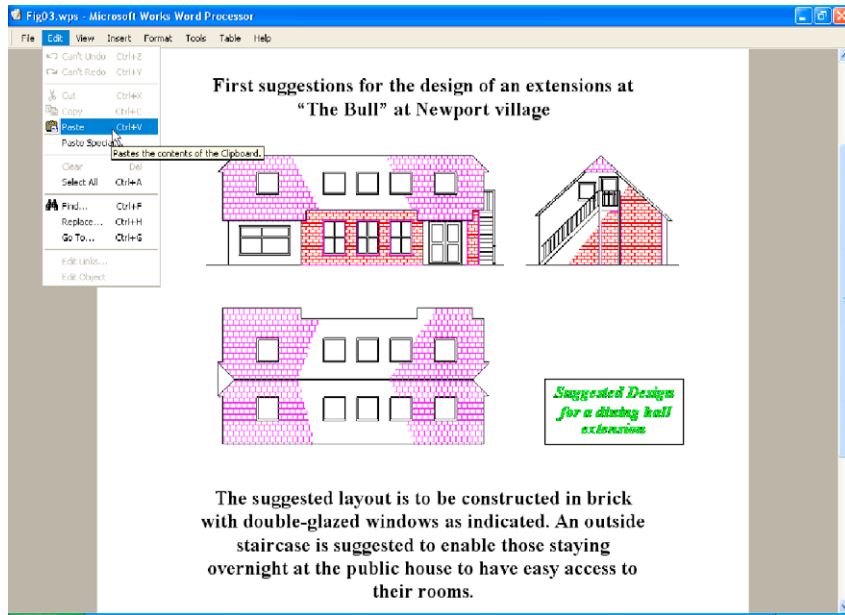

Fig. 10.2 Example – Copying and Pasting
3. Open **Microsoft Word** and *click* on **Paste** in the **Edit** drop-down menu (Fig. 10.2). The drawing from the **Clipboard** appears in the **Microsoft Word** document. Add text as required.